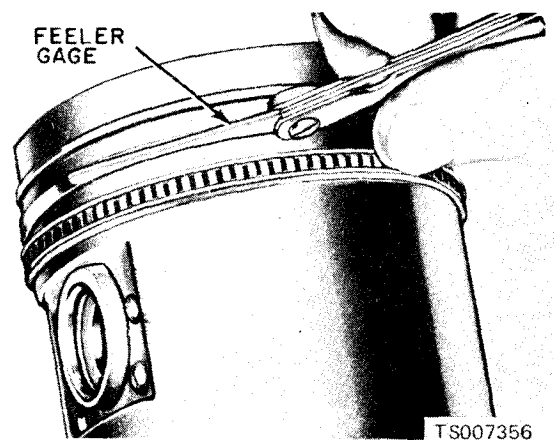

Figure 6-27. Checking Ring Side Clearance.
(7) Check the ring side clearance of the compression rings with a feeler gage inserted between the ring and its lower land (fig. 6-27). The gage should slide freely around the entire ring circumference without binding. Any wear that occurs will form a step at the inner portion of the lower land. If the lower lands have high steps, the piston should be replaced.
(3) Check the end gap of all piston rings (para 6-27). It must be within specifications. Follow the instructions contained on the piston ring package and install the piston rings.
(4) Check the ring side clearance of the compression rings with a feeler gage inserted between the ring with a feeler gage inserted between the ring and its lower land (fig. 6-27). The gage should slide freely around the entire ring circumference without binding. Any wear that occurs will form a step at the inner portion of the lower land. If the lower lands have steps, the piston should be replaced.
(5) Be sure the bearing inserts and the bearing bore in the connecting rod and cap are clean. Foreign material under the inserts will distort the bearing and cause a failure. Install the bearing inserts in the connecting rod and cap with the tangs fitting in the slots provided.